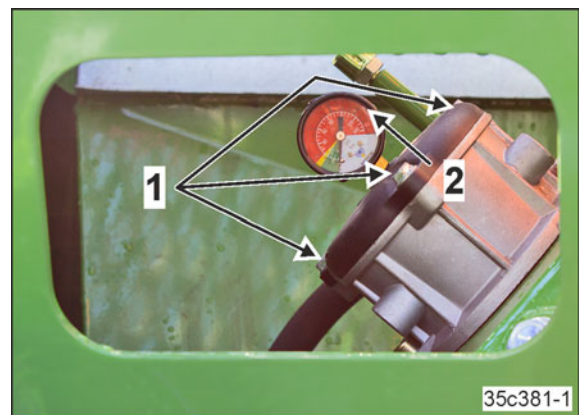

Fig. 291
1. Loosen the two hexagon bolts 6x25 (Fig. 291/1).
2. Lift the cover (Fig. 291/2)